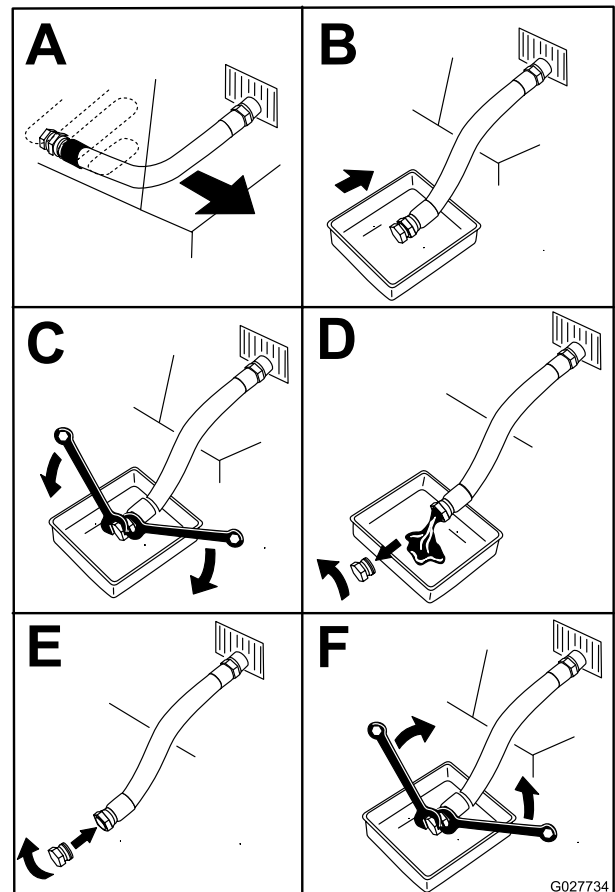

Figure 53
3. Stop the engine, remove the key, and wait for all moving parts to stop before leaving the operating position (Figure 53).